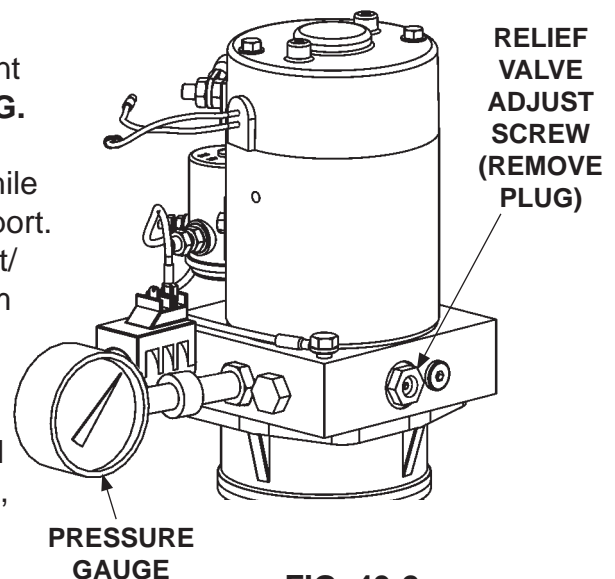

FIG. 49-2
3. With platform on the ground, remove the pressure hose and fitting from the pump and replace it with a 0-4000 PSI pressure gauge. Hold the switch in the "UP" position. Adjust the relief valve on the side of the pump until the gauge shows 3250 PSI (**FIG. 49-2**). Remove gauge and reinstall pressure hose.